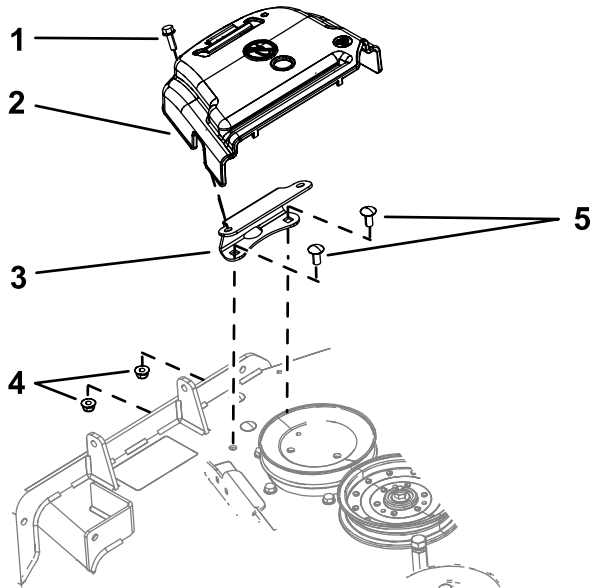

Figure 2
1. Rotate the bolt that secures the belt cover to the deck counterclockwise to loosen it (Figure 2).
2. Remove the belt cover and bolt from the mounting bracket (Figure 2).
1. Remove the 2 bolts and 2 flange nuts that secure the cover mounting bracket to the deck (Figure 2).